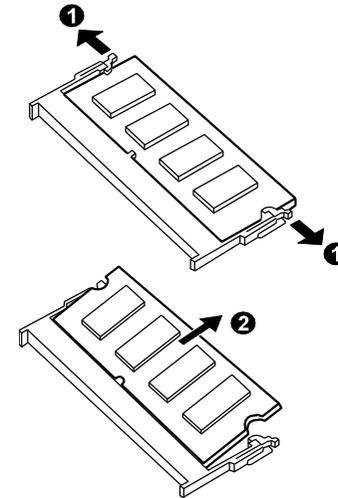

Figure 5-21. Removing the SO-DIMM
2. Pull the retaining clips outwards and remove the SO-DIMM. (Refer to Figure 5-21.)
1. To install the SO-DIMM, align the SO-DIMM's notched part with the socket's corresponding part and firmly insert the SO-DIMM into the socket at an angle. Then push down until the retaining clips lock the SO-DIMM into position. (Refer to Figure 5-21.)